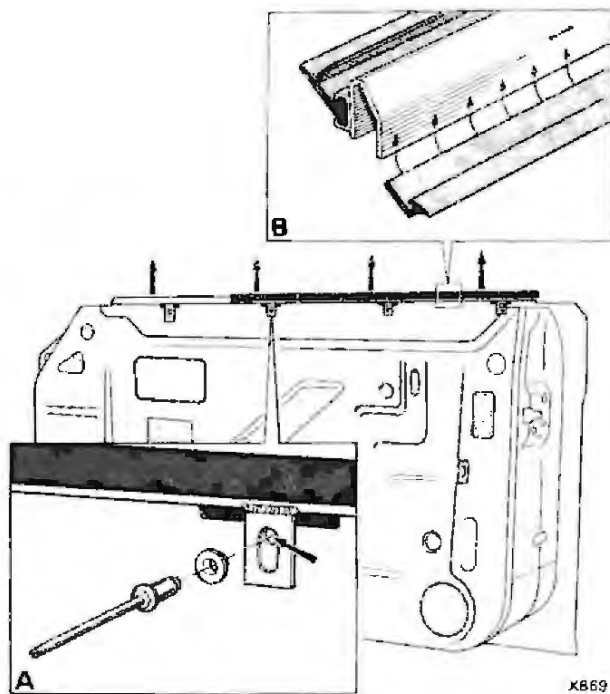

Fig. 1
- b. If it is necessary at anytime to repaint the door top. Elongated holes have been provided in the fixing tabs of the fence moulding, so that it can be lifted approximately 3 mm (0.120 in) from the door top (see fig. 1,A). This eliminates the possibility of paint build-up between the moulding and door top, and in some cases the necessity to remove the door frame.